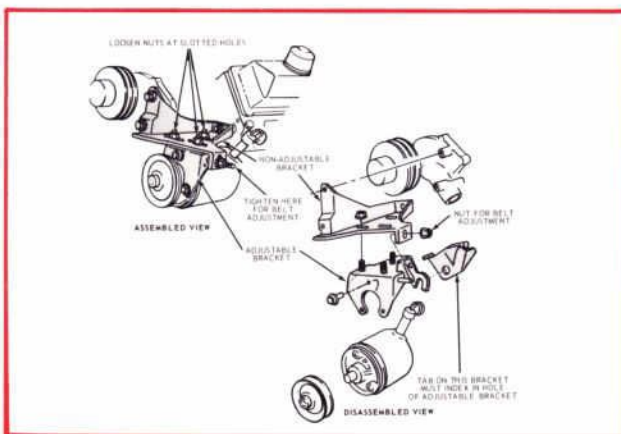

Figure 16—Pump Brackets for 1970 429 and 460 Engines
- Check drivebelt tension. Do not test by pushing down with thumb for a ¼-inch deflection. Instead use an accurate drivebelt tension gauge. New belts should measure 140 lbs. and used belts (run more than ten minutes) should measure 110 lbs. **CAUTION:** Do not pry against reservoir to obtain proper tension as this may deform reservoir and cause a leak. **NOTE:** On 1970 models with 429 and 460 engines, the power steering pump incorporates a unique adjustable bracket (figure 16).